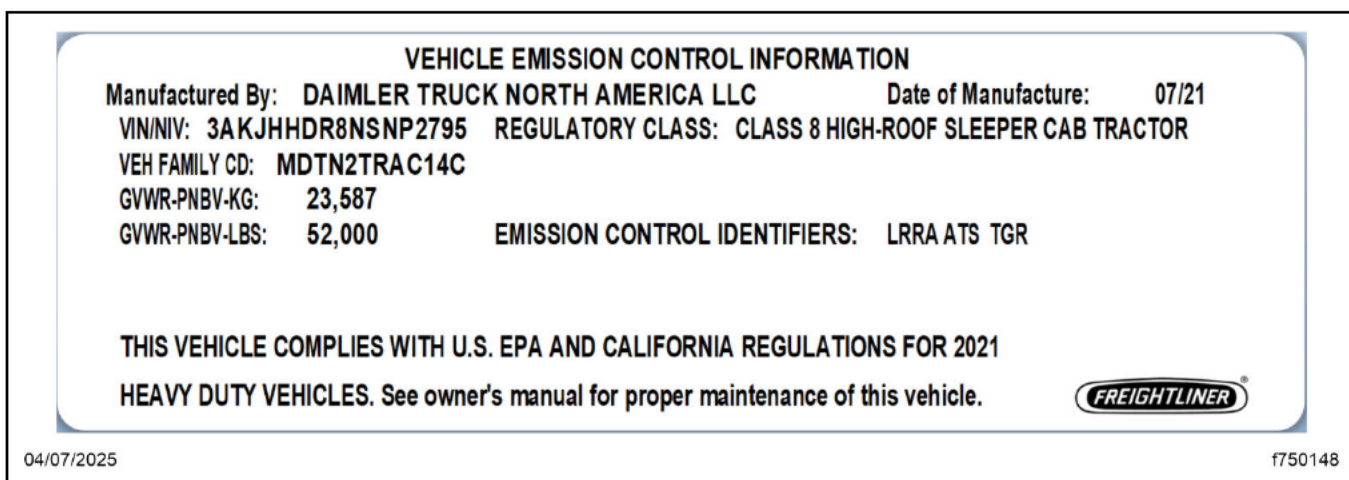

Fig. 2, Example of a VECI Label
- 3.1. Confirm that the label located on the upper part of the B-pillar is the VECI label. **Figure 2** shows an example of a VECI label.